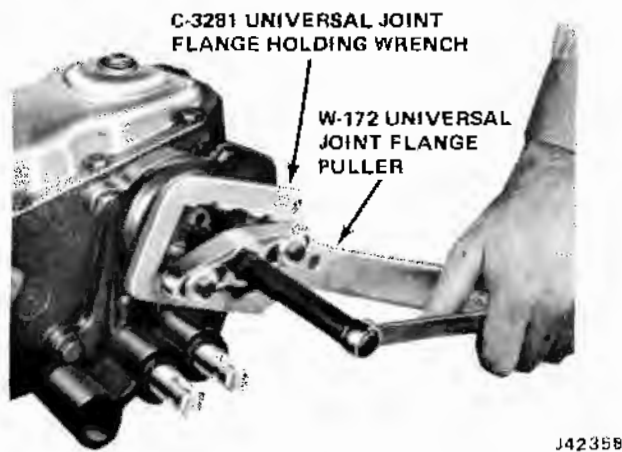

Fig. 8-9 Universal Joint Flange Puller
- (7) Remove front output shaft yoke using Puller Tool W-172 (fig. 8-9).
- (8) Remove felt oil seal and oil seal gasket.
(1) Remove rear output shaft nut and washer by using Yoke Holding Wrench C-3281. Remove rear output shaft yoke by using Puller Tool W-172 (fig. 8-9).
(1) Remove front propeller shaft nut and washer using Yoke Holding Wrench Tool C-3281.
(2) Remove front propeller shaft yoke with Puller Tool W-172 (fig. 8-9).